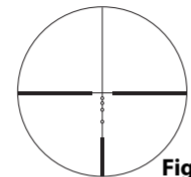

Fig. 4-1
- ① Look through the eyepiece with your eye positioned about 10 cm (4 in) away from the eyepiece to see the Standard BDC reticle (Fig. 4-1). Be sure your eye is positioned with proper alignment and with proper eye relief, otherwise the view will “black out.”
- ② Point the objective end of the scope at the sky (do NOT point it at the sun) or at a plain unpatterned wall.
- ③ Turn the eyepiece adjustment counter-clockwise and then turn it clockwise until the reticle appears sharp.